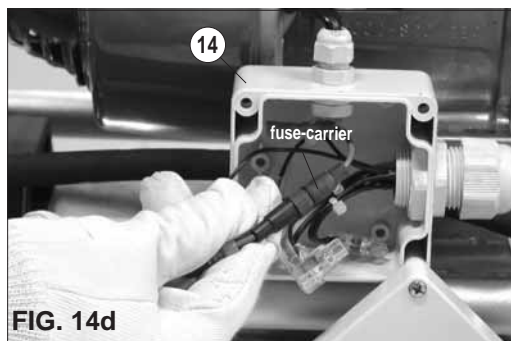

FIG. 14d
- Remove the 4 screws from the lid of the terminal box (14) using a screwdriver.
- Pull out fuse carrier and open it (Fig. 14d).